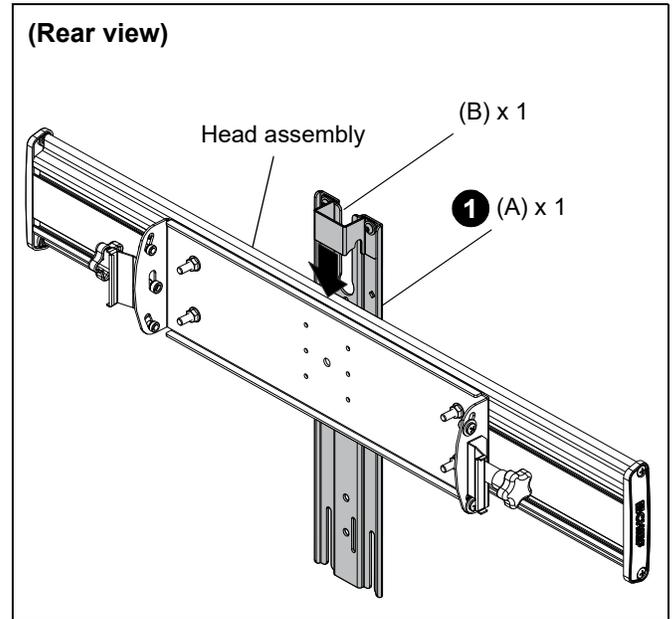

Figure 7
1. Slide upright bracket (A) onto front of cart/ceiling/freestanding mount head assembly until edge rail bracket (B) rests on top of head assembly. (See Figure 7)